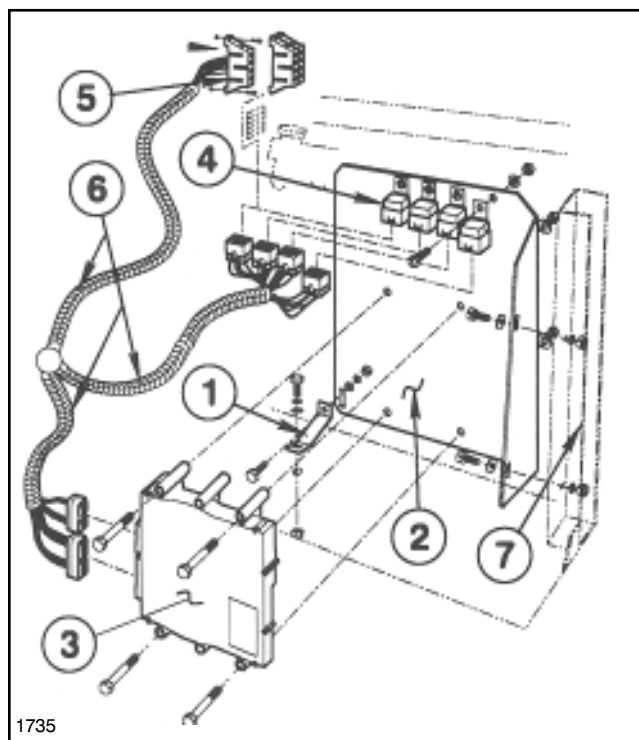

FIG. 2
3. Mount the Support Bracket to the ECU Bracket using (1) 5/16 NC x 3/4" cap screw, flat washer, lock washer, and hex nut. See FIG. 2.
4. Mount ECU to Bracket using four (4) 1/4 NC x 2-1/2" hex hd cap screws, lock washers and hex nuts. See FIG. 2.
5. Mount ECU to Bracket using four (4) 1/4 NC x 5/8" hex hd cap screws, lock washers and hex nuts. See FIG. 2.
6. Remove fasteners securing Vehicle Fuse Block(s). Slide Sonic Boom™ Fuse Block together with Vehicle Fuse Block(s) and remount all Fuse Blocks to Vehicle using fasteners previously removed. See FIG. 2.
8. Mount ECU Bracket to Upright Post, using two (2) 5/16 NC x 3/4" cap screws, flat washers, lock washers, and hex nuts. See FIG. 2.
10. Secure Support Bracket to floor, using a 5/16 NC x 3/4" cap screw, flat washer, lock washers, and hex nut. See FIG. 2.